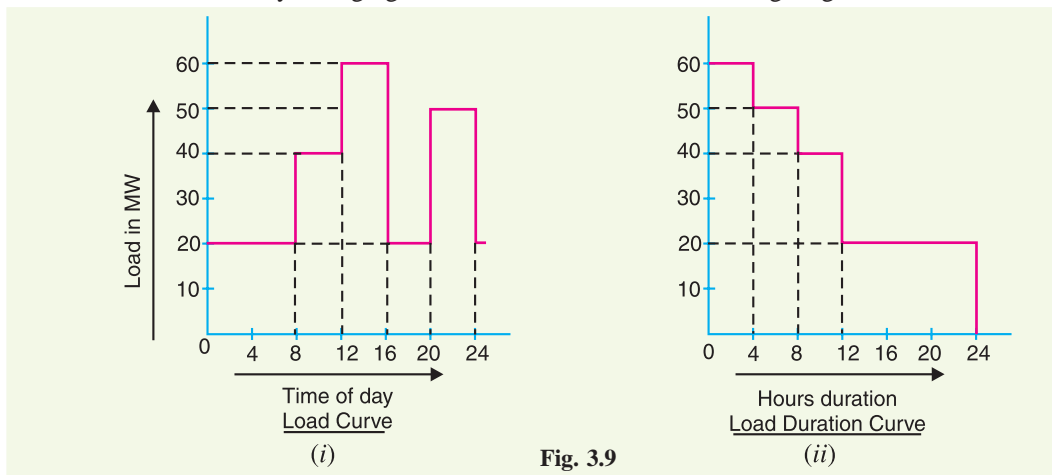

Fig. 3.9
**Solution.** Fig. 3.9 (i) shows the daily load curve, whereas Fig. 3.9 (ii) shows the daily load duration curve. It can be readily seen that area under the two load curves is the same. Note that load duration curve is drawn by arranging the loads in the order of descending magnitudes.